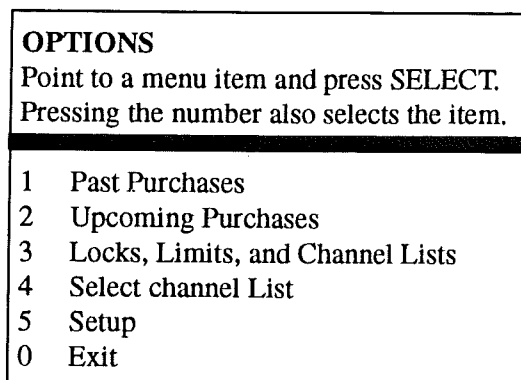

FIGURE 3
STEP 9: Select #4 Options. Figure 3